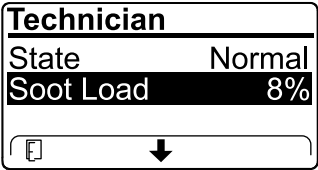

Figure 10
- View the soot load which is measured as the percentage of soot in the DPF(Figure 10); refer to the soot-load table.